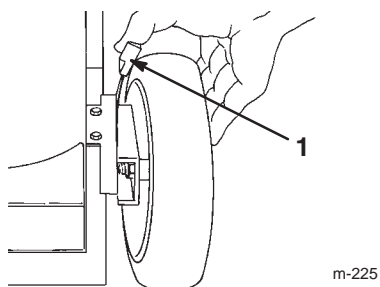

Figure 15
3. Set all four wheels in to the 2-1/2 in. (64 mm) cutting height setting (Fig. 15).
1. Pull the wheel height adjustment lever toward the wheel (Fig. 15) and move it to the desired setting.